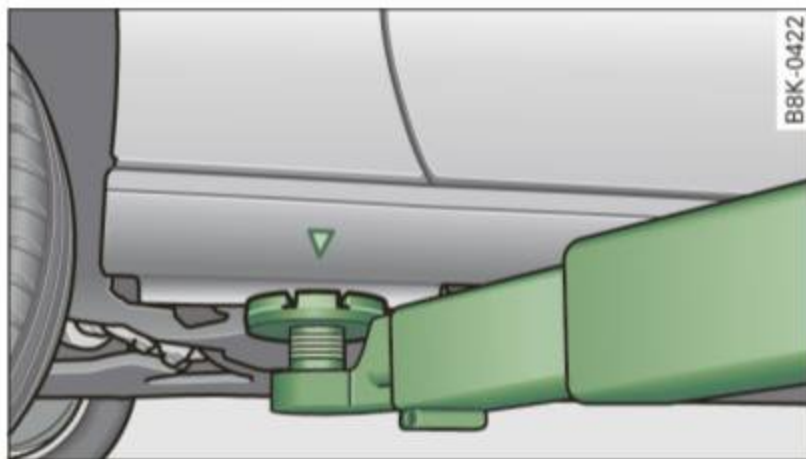
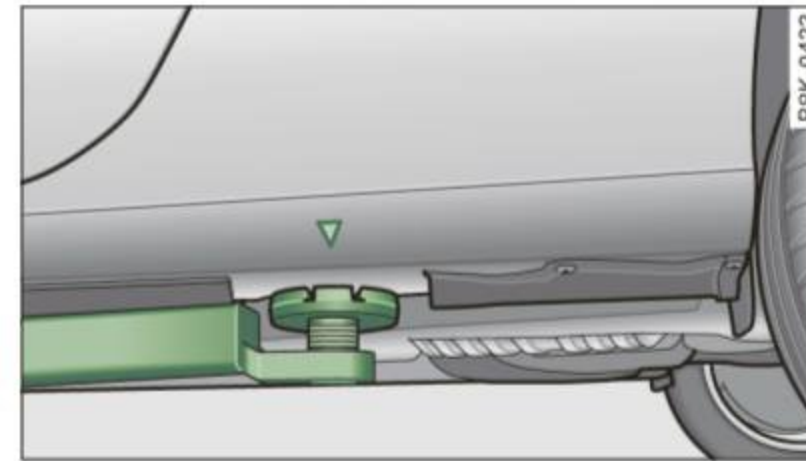

Fig. 238 Front lifting point
Fig. 239 Rear lifting point
- Locate lifting points ⇒ fig. 238 and ⇒ fig. 239.
The lifting point is located on the floor pan reinforcement about at the same level as the jack mounting point ⇒ fig. 238. **Do not lift the vehicle at the vertical sill reinforcement.**
The lifting point is located on the vertical reinforcement of the lower sill for the onboard jack ⇒ fig. 239.
- Always lift the vehicle only at the special workshop hoist and floor jack lift points illustrated ⇒ *page 333, fig. 238* and ⇒ *page 333, fig. 239*.